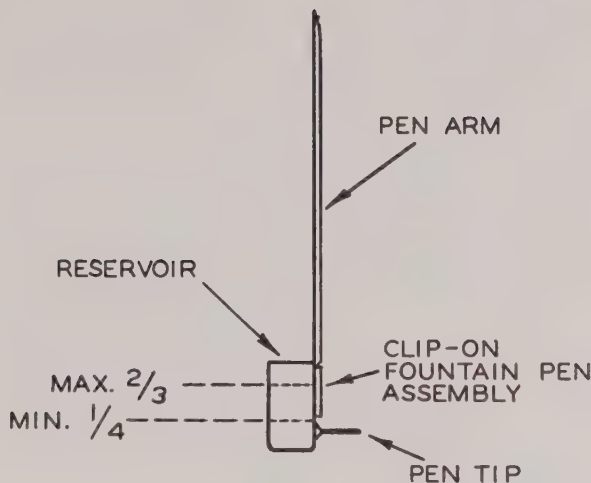

FIGURE 3-C FOUNTAIN PEN ASSEMBLY
- (1) Place a piece of scrap paper under the pen tip.
- (2) Using an eyedropper, fill the pen reservoir to the two-third level as shown in figure 3-C. Do not overfill.
- (3) Place a piece of scrap paper under the pen tip and draw it back and forth until a trace is observed.
- (4) Once proper ink flow is achieved, remove the scrap paper and carefully place the pen in contact with the paper chart.